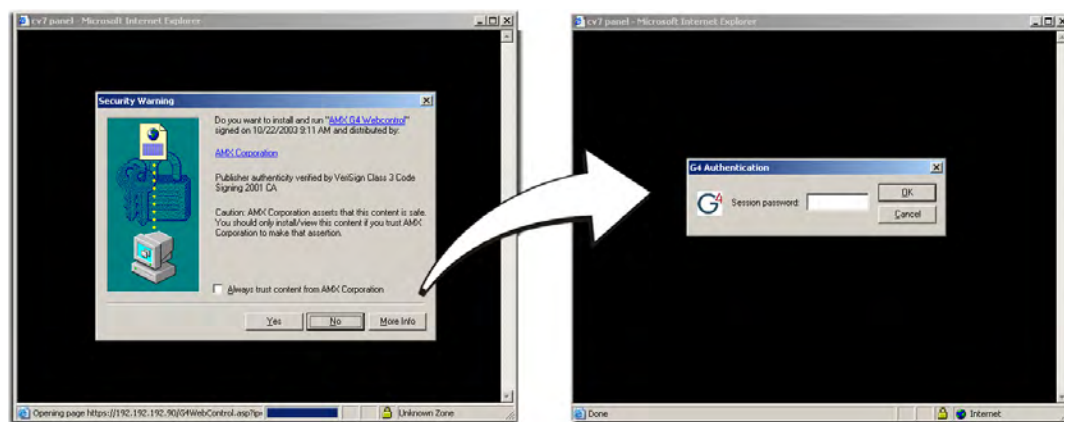

FIG. 45 Web Control VNC installation and Password entry screens
6. Click on the G4 panel name link associated with the target panel. A secondary web browser window appears on the screen (FIG. 45).
10. Enter the Web Control session password into the *Session Password* field (FIG. 45). *This password was previously entered into the Web Control Password field within the G4 Web Control page on the panel.*